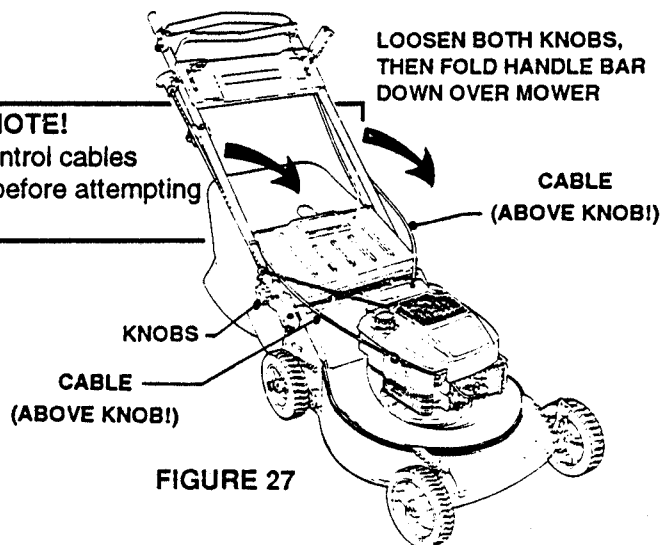

FIGURE 27
8. The handlebar may be tilted forward AFTER loosening both KNOBS. The Grass Bag does not have to be removed. See Figure 27
10. To reposition handlebar for mowing, fold handle back into mowing position and tighten knobs. Check cables for any kinks or bends. Refer to Figure 27.